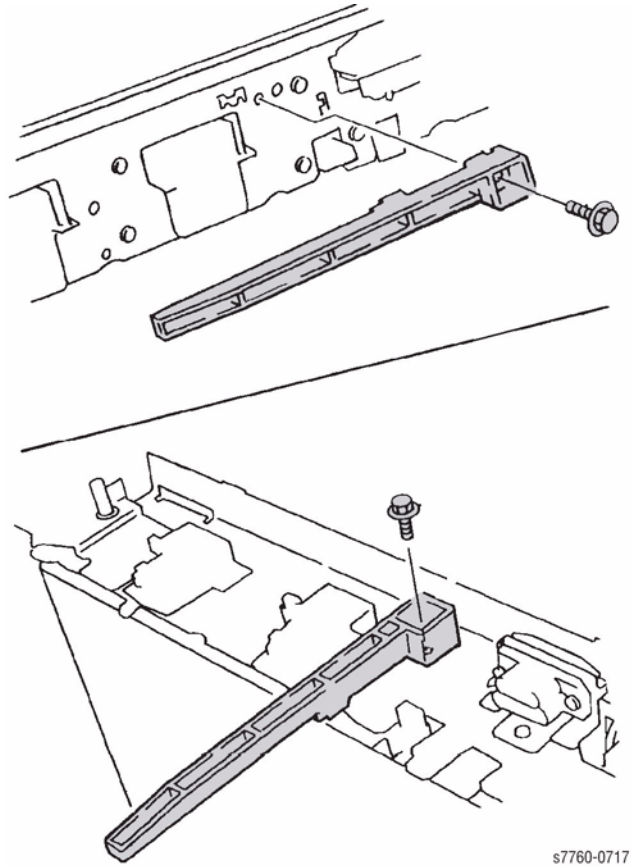

Figure 4 Positioning Latch
6. Positioning the Latch (Figure 4).